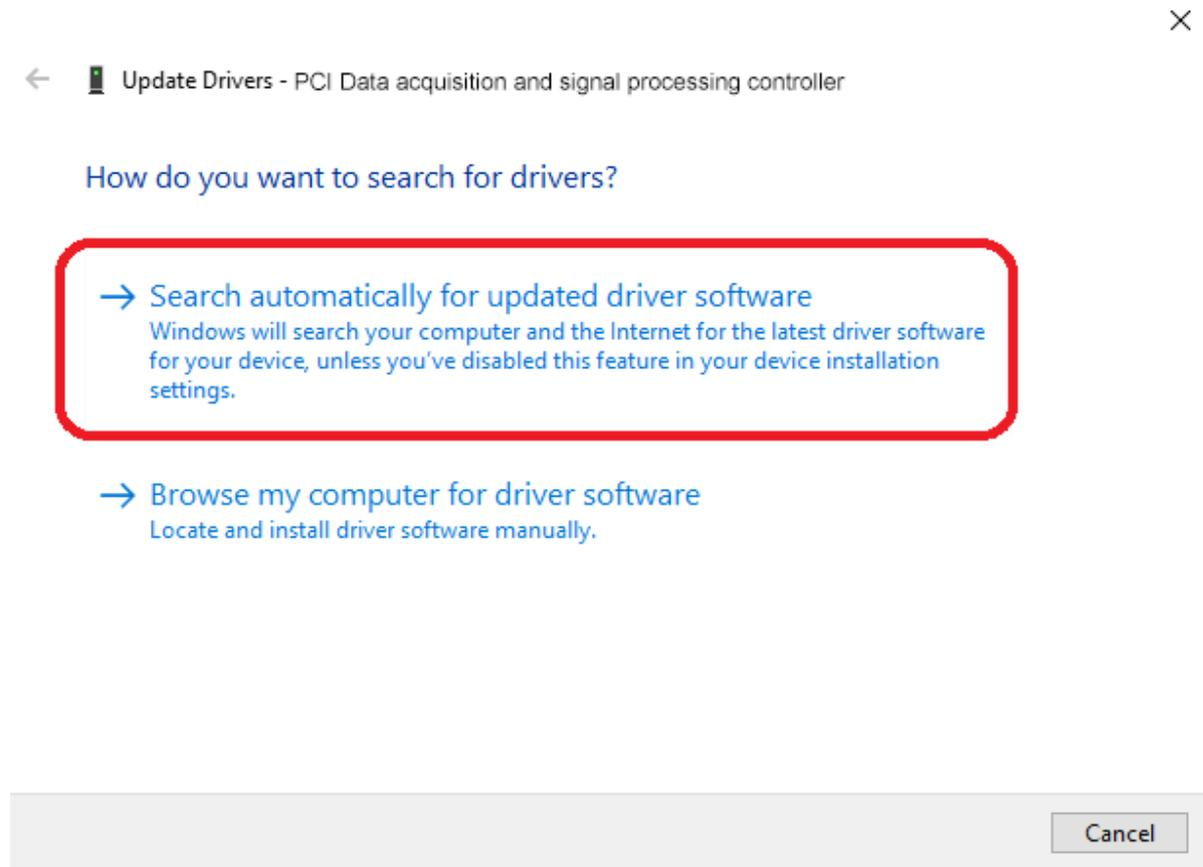

Figure 2.4 Browse my computer for driver software.
- 2) Select "PCI Data Capture and Signal Processing Controller", right-click and select "Update Driver". Select "Browse my computer to find driver software" in the pop-up dialog box, as shown in Figure 2.4 below.